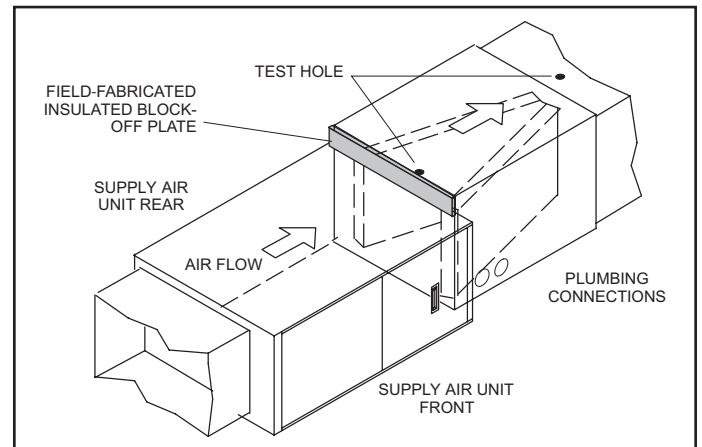

Figure 2. D-Width Coil with C-Width Furnace
5. **Applications using NCHC-60 D-width unit with C-width furnace** — Figure 2 shows an application that includes a D-width coil and a C-width furnace. This application requires construction of an insulated, field-supplied block-off plate to cover the open space on the coil housing.
Connect the properly sized field-provided liquid line to the liquid line stub as shown in Figure 2 using one of the following procedures: